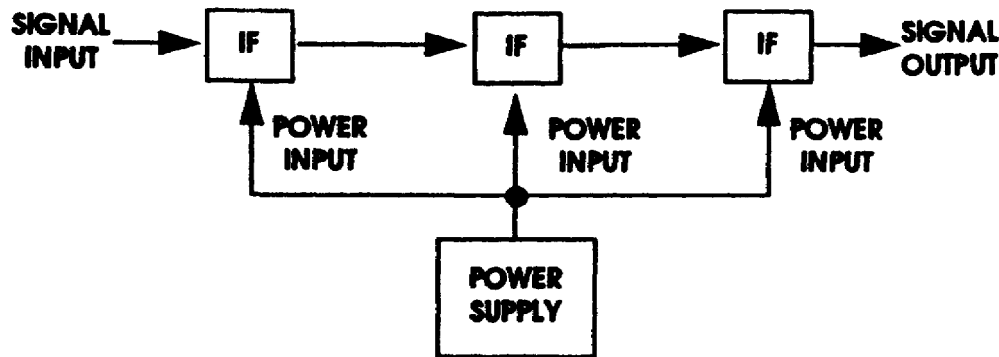

Figure 1-6.
In a sense, some linear signal flow paths could also be considered to be convergent signal flow paths. For instance, the IF amplifiers in a standard communications receiver are connected in series, but power must be supplied to each amplifier from another source. The power input could be considered as one of the inputs to the amplifiers, along with the various signal inputs (as shown in figure 1-6).
12. Just the opposite from a convergent type of signal flow path is the DIVERGENT type of signal flow path. Figure 1-8 shows a typical divergent type of signal flow path. The power distribution system in most electronic equipment is an excellent example of a divergent type of signal flow path (refer to figure 1-6, page 1-11). To check for the proper operation of a divergent stage, check any output for a normal indication.